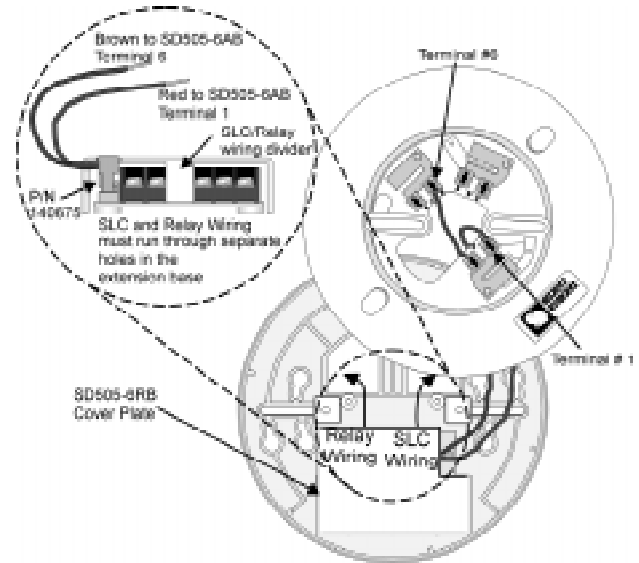

Figure 1: Wiring Parameters
Figure 1 illustrates how to run the wiring for the SLC loop and relay through the extension base, and how wiring harness 140675 connects to the 6" detector base.
Note: Low and high voltage wiring must be run through separate openings on the extension base. See Figure 1. If you are connecting both power limited and non-power limited sources to the relay base, you must use one of the following types of wire, FPLP, FPLR, or FPL within the box in accordance to NEC 760.54.
3. Snap the SD505-6RB cover plate over the SD505-6RB circuit board. See Figure 1.
4. Connect wiring harness (P/N 140675) to the smoke base as shown in Figure 1.
5. Plug wiring harness (P/N 140675) into harness connector. Refer to Figure 1.